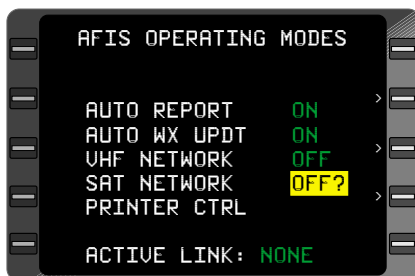

Figure 7-101
6. **ENT** Key - DEPRESS to turn the satellite network **OFF**. (Figure 7-101)